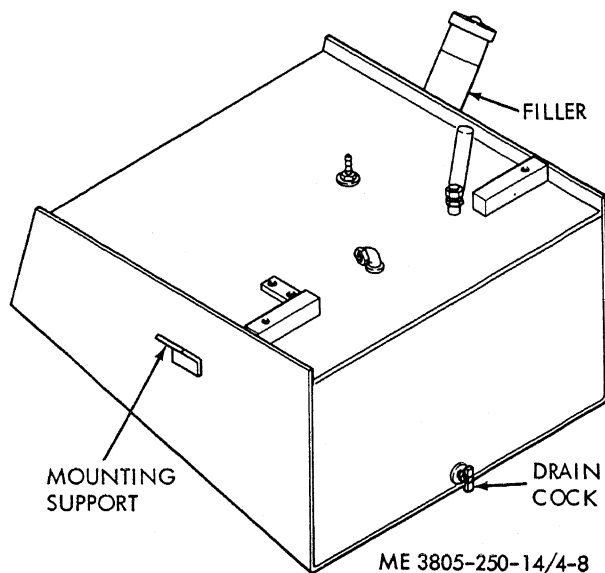

Figure 4-8. Fuel tank.
- (1) Open the drain cock on the bottom of the fuel tank (fig. 4-8) and allow the fuel to drain.
- (2) Disconnect the fuel tank inlet and outlet lines. Cap openings.
- (3) Support the tank with a suitable hoist and remove bolts and lockwashers securing the tank to the frame. Lower the fuel tank to the ground and remove from beneath the loader.